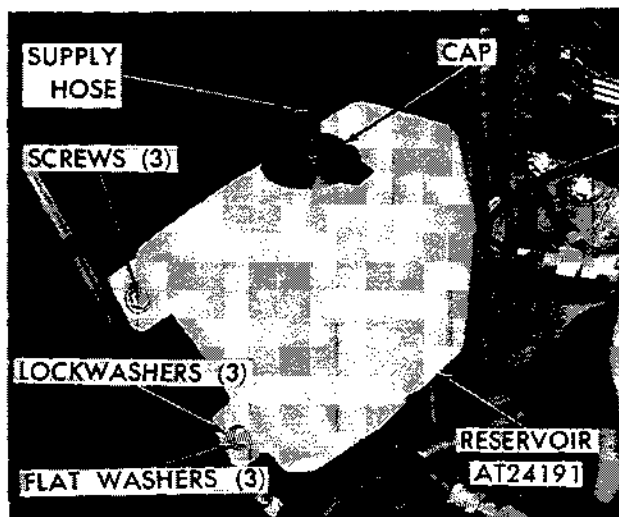

Figure 2-393. Removing or installing washer reservoir (M151A2, M825, and M718A1 vehicles).
(1) Separate supply hose, cap, and strainer assembly from plastic reservoir tank.
(2) Remove three screws, three lockwashers and three flat washers securing reservoir to inside panel of right fender (fig. 2-393). Remove reservoir from vehicle.